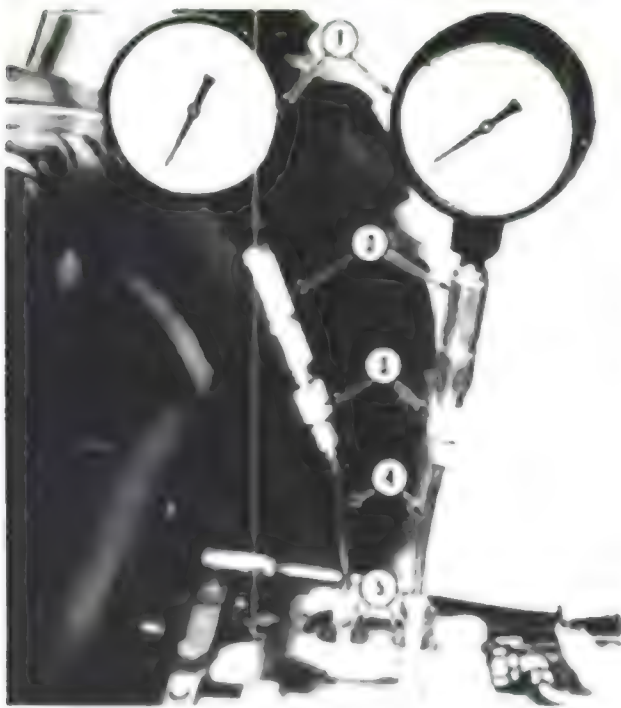
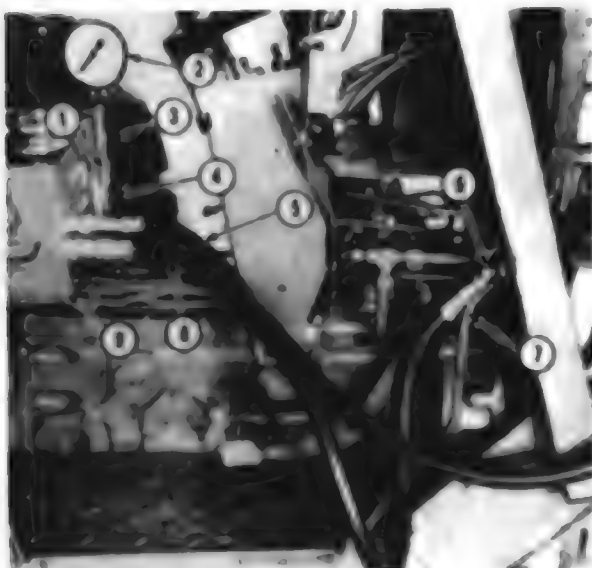

Fig. 102 - Test gages installed for checking drive pressure.
Fig. 105 - View showing Flo-Rater connected in series with the oil cooler return line when checking charge flow.
**90. DRIVE PRESSURE.** To check the forward and reverse drive pressure support rear of tractor so both rear wheels are free to rotate. Operate tractor until transmission oil is warmed to a temperature of 135°F. Remove the tunnel cover and connect two 10000 psi test gages in the test ports of drive control valve as shown in Fig. 102. Start engine and shift range transmission to Hi position. Set engine speed at 2400 rpm. Raise the S-R lever and slowly move it forward one inch while applying both brakes.
To check charge flow, connect the inlet hose of a Flo-Rater to the return line from the oil cooler as shown in Fig. 105. Connect the outlet hose of the Flo-Rater to the return line going to the transmission.
the multi-valve. Low charge pump flow will indicate pump damage or leakage at valve plates, bearing plates, pistons and center section which would allow charge fluid to escape from the closed loop circuit. If charge pump pressure and flow is satisfactory in neutral at the given engine speeds, connect 10000 psi test gages in forward and reverse test ports in drive control valve as shown in Fig. 102. Connect a Flo-Rater in series with oil cooler return line (Fig. 105). Then, check forward and reverse drive pressure and charge pump flow at the same time.